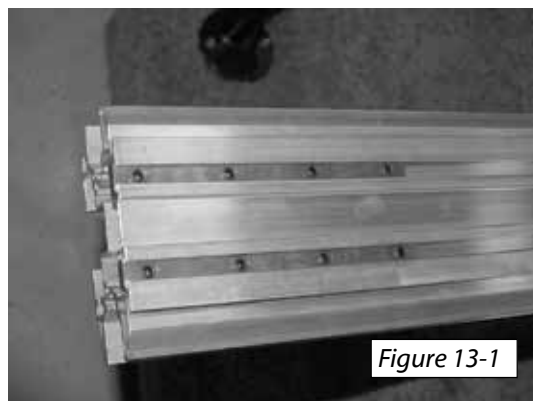

Figure 13-1
1. Splice bars are inserted in one end of one rail section. Loosen the set screws with a 5/32" hex tool. Slide the splice bar half-way out and re-tighten the set screws. [Figure 13-1 and 13-2]